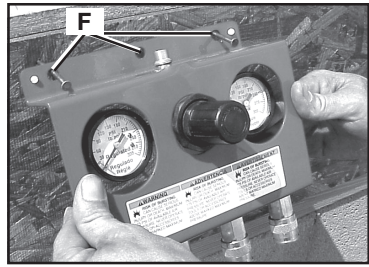

Fig. 6
5. The "quadraport" can be temporarily or permanently mounted at the work site using the three mounting holes (F). See Figure 6.